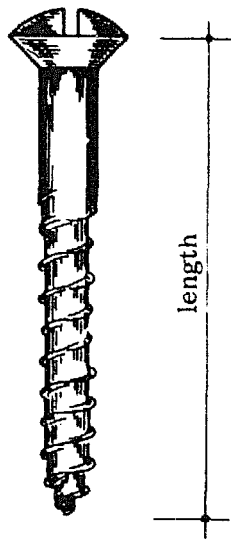

Fig. 3
- Raised countersunk head screws (Fig. 3, page 210)